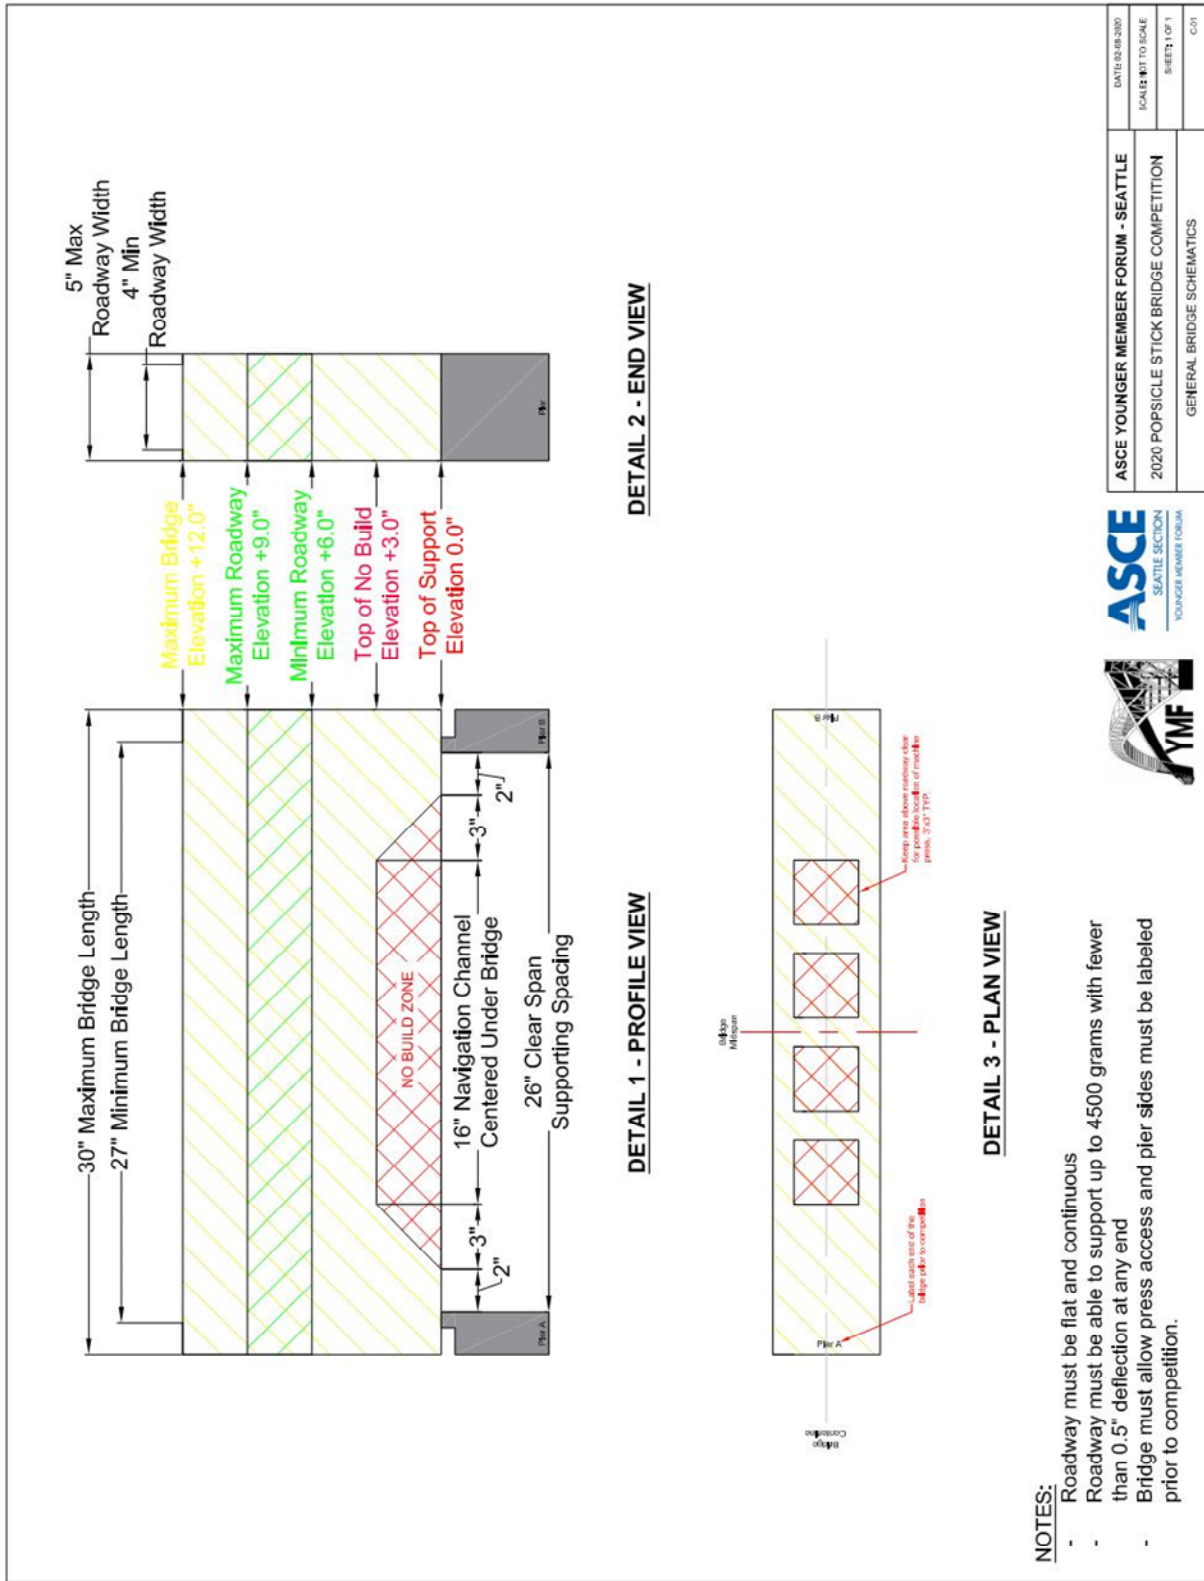

Figure 3.2: General Bridge Schematics
SUPPORTS are the end surfaces that will support the bridge. See **Figure 3.2** for an up-close diagram.
a. The height of the bridge must be less than or equal to **12-inches** measured from the bottom elevation (lowest point) of the bridge to the top elevation (highest point) of the bride. See **Figure 3.2**.
d. The bridge's **overall** length shall be greater than or equal to **27-inches** but shall not exceed **30-inches**. See **Figure 3.2**.
e. The clear span between the provided supports will be **26-inches**. See **Figure 3.2**.
f. No part of the bridge shall be within the No Build Zone. See **Figure 3.2**.
- b. The location of the load will be determined on the day of competition and will be at one of the four indicated areas in **Figure 3.2**. *The loading location will be the same for all bridges in the competition.*
- d. The machine press is **3-inches** by **3-inches**. Ensure there is a clear space above the possible locations of the machine press to allow load application to the roadway. See **Figure 3.2** for a plan view (top view) of the bridge, including the areas to keep clear for possible locations of the machine press. **Using a permanent marker, label your bridge with 'Pier A' on the road at one end of the bridge, and with 'Pier B' on the road at the other end prior to arriving at the competition site.** If there are no marks, then a judge will determine the locations of Pier A and Pier B for you.
- b. The provided supports will be placed **26 inches** apart (clear span). See **Figure 3.2**.
- c. The bridge shall not be constructed to exert any horizontal loads on the provided supports, other than friction at the top surface. The bridge shall not be within the bridge abutment no-build zone, as shown in **Figure 3.2**.